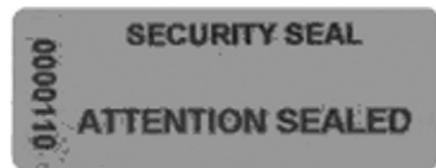

Figure 3
- damage to the seals (Figure 3, Figure 4).